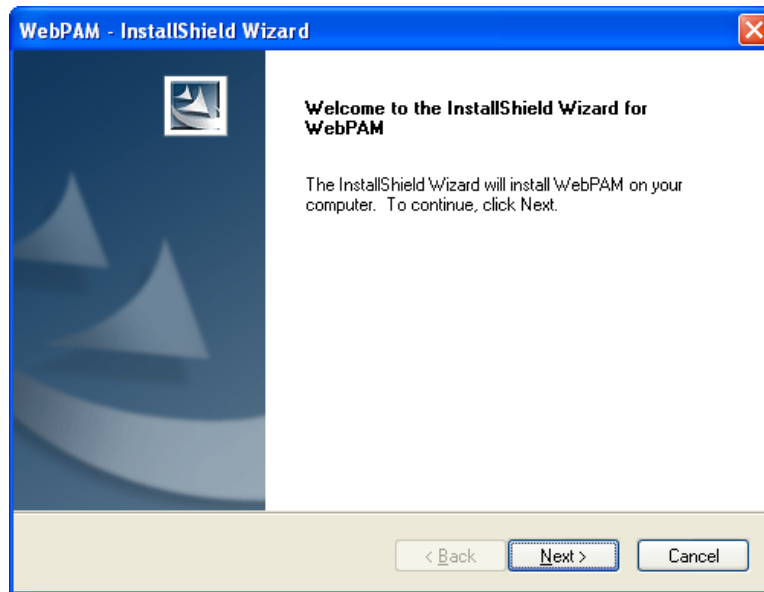

Figure 7-31: Welcome Screen
Step 9: The welcome screen in Figure 7-31 appears.